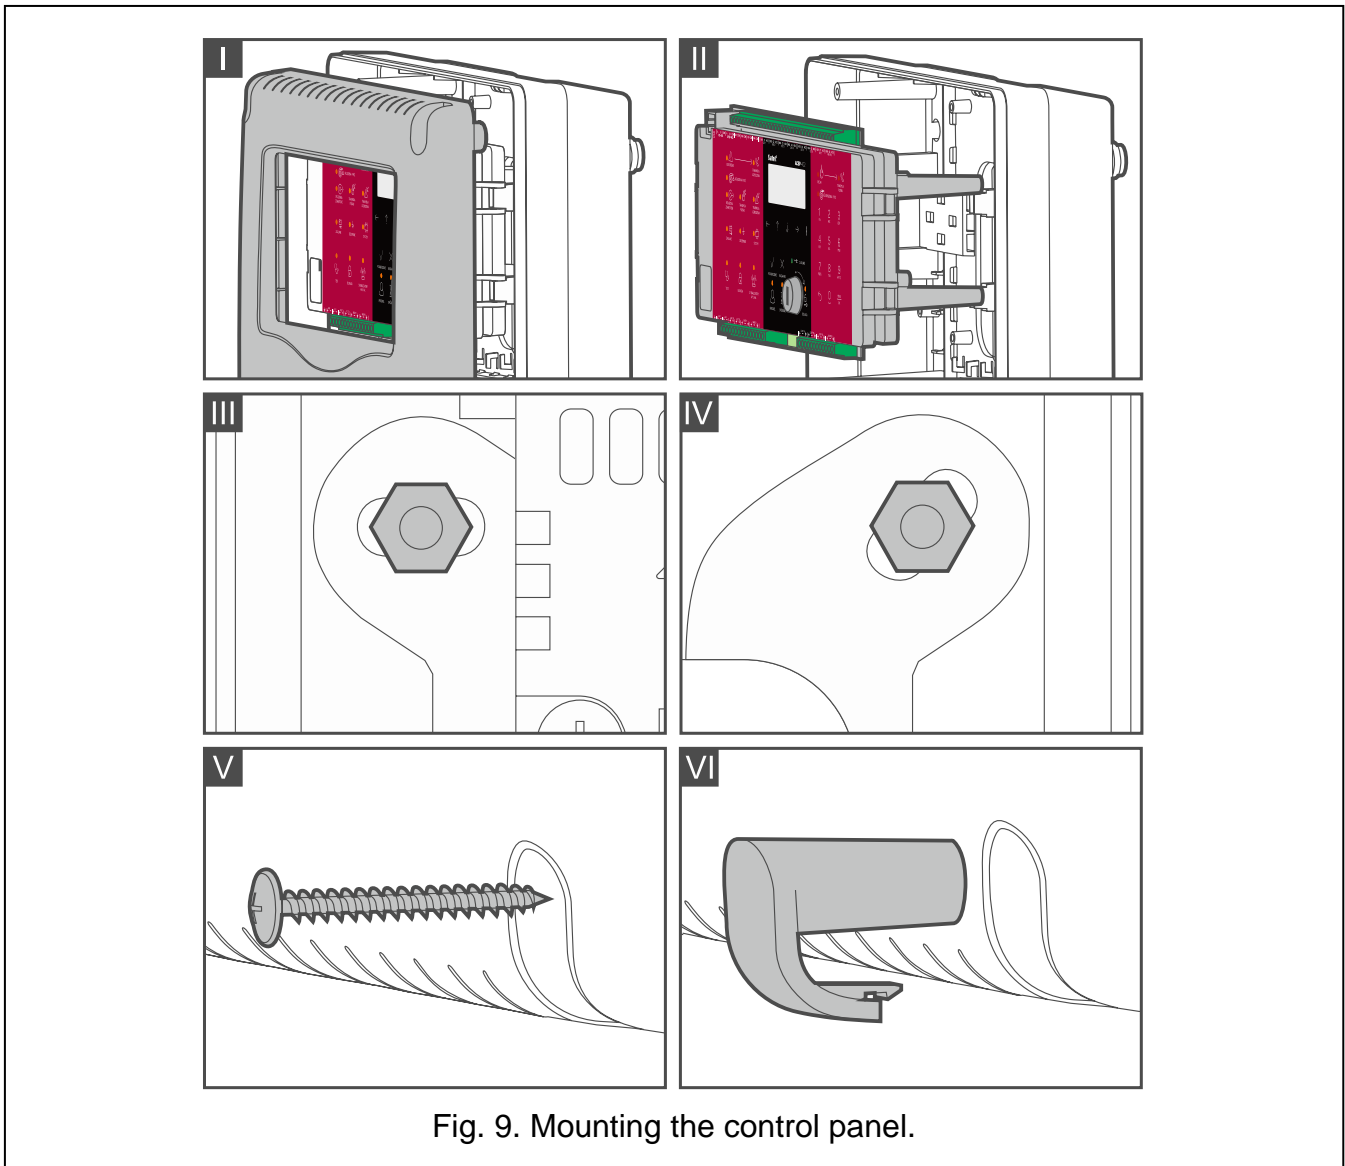

Fig. 9. Mounting the control panel.
1. Remove the cover (Fig. 9-I).
2. Remove the control panel mainboard module from catches in the enclosure base (Fig. 9-II).
3. Remove 2 bolts locking the insert for battery during transport (Fig. 9-III and 9-IV).
12. Replace the cover and fasten it to the enclosure base with 4 screws (Fig. 9-V).
13. Cap the screw holes (Fig. 9-VI).